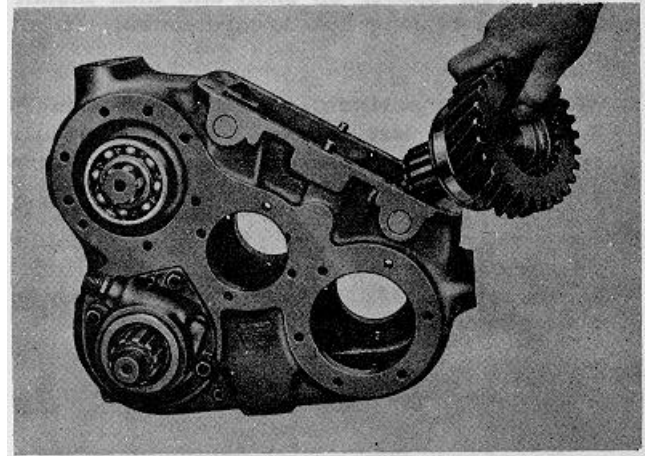

Fig. 31.
16. Install ball bearing on hub of gear. Position gear and bearing in case and install snap ring on bearing (Fig. 31).